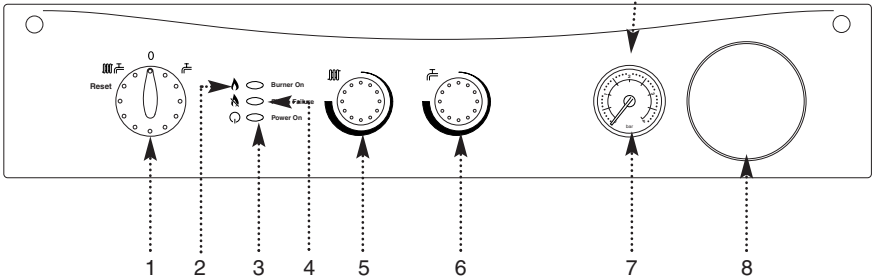

Fig. 2
3. In either position the green "power" neon (⓪) will illuminate (Fig. 2).
7. The orange "burner" neon (⚡) will illuminate when the boiler is operating and the main burner is on (Fig. 2).